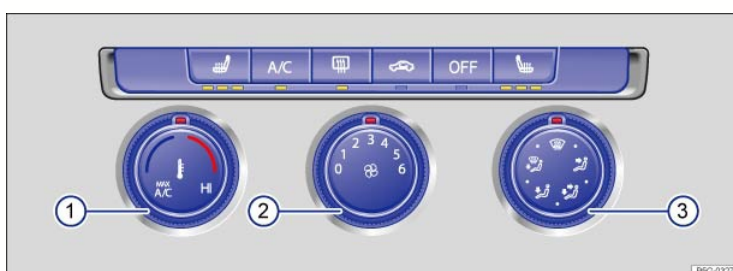
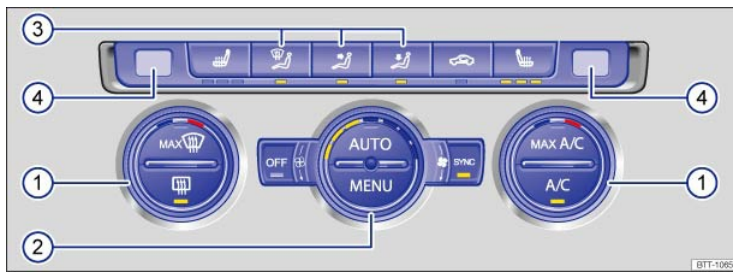

Fig. 91 In the center console: Manual controls.
Fig. 92 In the center console: Climatronic controls.
- *Manual air conditioning:* Turn the fan knob to ⇒ Fig. 91 2.
- *Climatronic:* Turn the fan knob as far left as it will go ⇒ Fig. 92 2
- **OR:** Press the **MENU** button on the Climatronic controls ⇒ Fig. 92 2 to open the Climatronic menu in the Infotainment system and switch the system off.
- *Manual air conditioning:* Turn the temperature knob \Rightarrow Fig. 91① all the way to the left (**MAXA/C** position).
- *Manual air conditioning:* Turn the temperature knob \Rightarrow Fig. 91① to set the temperature.
- *Climatronic:* Turn the outside knobs \Rightarrow Fig. 92① to set different temperatures for the driver and passenger sides. The displays above the knobs ④ show the set temperature.
- Turn the middle knob \Rightarrow Fig. 91② or \Rightarrow Fig. 92② to adjust the fan speed.
- *Manual air conditioning:* Turn the knob \Rightarrow Fig. 91③ to direct air flow in the desired direction.
- *Climatronic:* Press the buttons \Rightarrow Fig. 92③ to direct air flow in the desired direction. When automatic regulation (**AUTO**) is switched on, air flow is automatically adjusted to a comfortable level. Options vary, depending on equipment:
- *Manual air conditioning:* Turn the right knob to position  \Rightarrow Fig. 91③ to defrost the windshield as quickly as possible. The cooling system switches on automatically to dehumidify the air. When the defrost function is switched on, the air recirculation mode cannot be switched on.
- *Climatronic:* Press the **MAX**  button \Rightarrow Fig. 92① to defrost the windshield as quickly as possible. The incoming outside air is directed to the windshield, and air recirculation automatically switches off. Humidity is removed from the air at temperatures above about +35 °F (+1.5 °C), and the blower is set to a high speed.